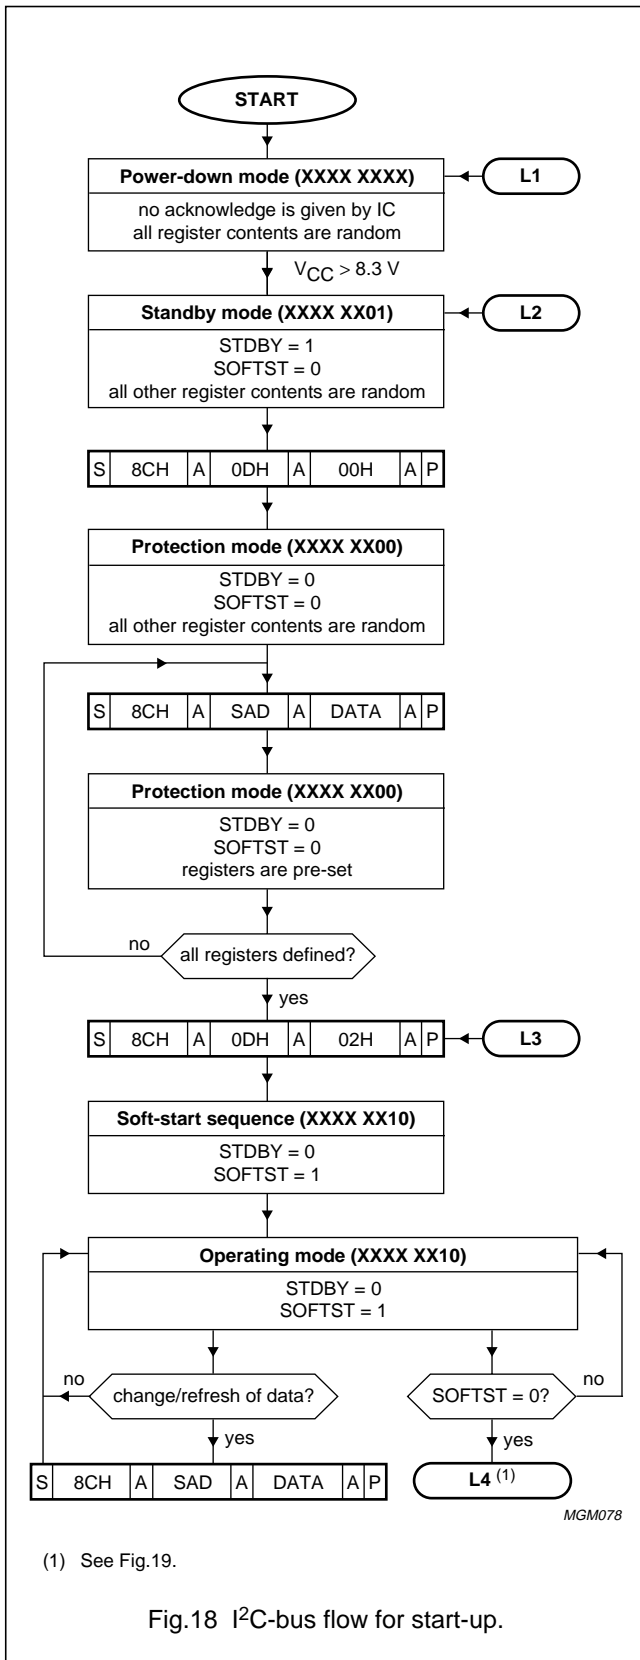

Fig.18 I²C-bus flow for start-up.
2. Starting the soft-start sequence by setting control bit SOFTST = 1 (bit STDBY = don't care); see L3 of Fig.18 for continuation
- See L2 of Fig.18 for continuation.
(1) See Figs 18, 19, 20, 24 and 25.